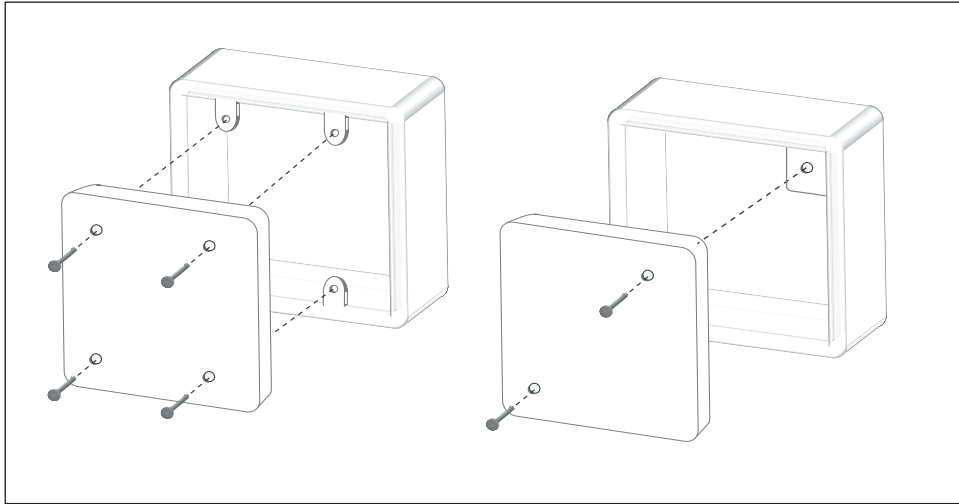

Fig 1. Mounting the Priority Monitor Module
2. Turn the fascia plate face down and locate the knock-outs corresponding to the threaded holes on the electrical box selected (Fig 1). With a small screwdriver and hammer, knock out these holes from the back of the fascia plate.